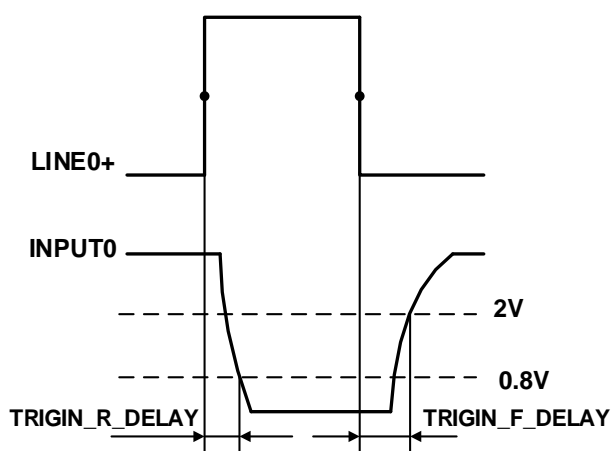

Figure 7-4 Parameter of opto-isolated input circuit
- Rising edge delay: $<50\mu\text{s}$ ($0^{\circ}\text{C}\sim 45^{\circ}\text{C}$), parameter description as shown in Figure 7-4
- Falling edge delay: $<50\mu\text{s}$ ($0^{\circ}\text{C}\sim 45^{\circ}\text{C}$), parameter description as shown in Figure 7-4
- Input rising time delay: <2μs (0°C~45°C), parameter description as shown in Figure 7-4
- Input falling time delay: <2μs (0°C~45°C), parameter description as shown in Figure 7-4